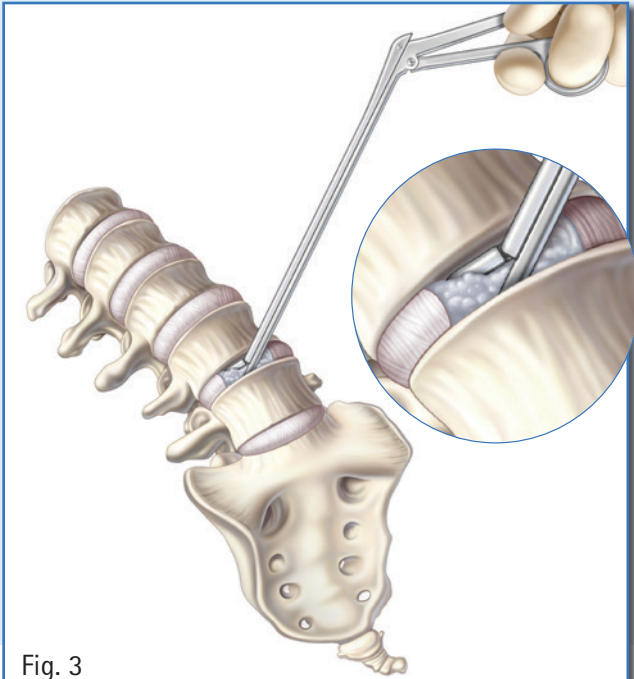

Fig. 3
- Expose the disc and remove disc material (Fig. 3).